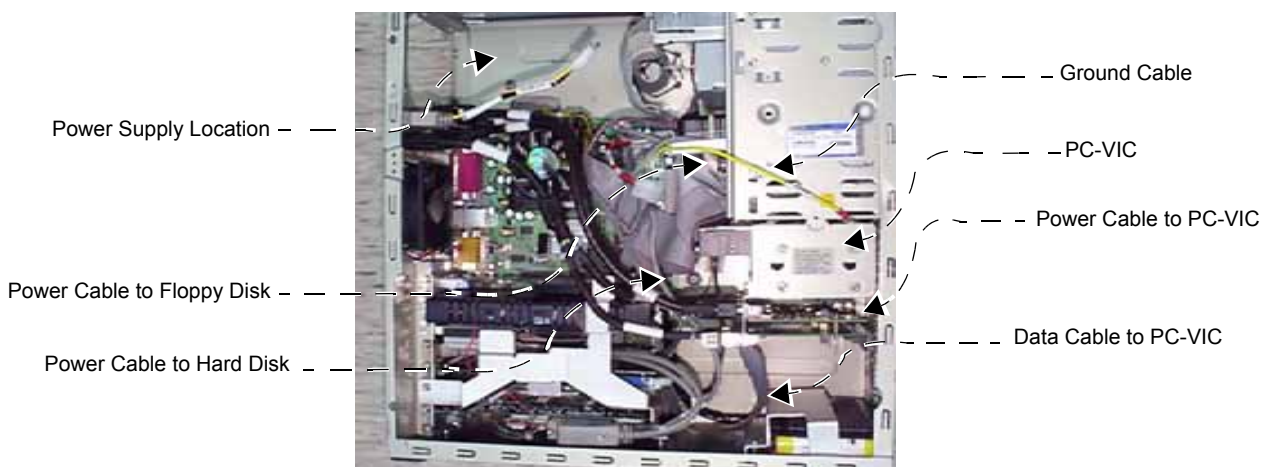

Figure 8-83 BEP2 Power Supply Location
- 3.) Slide the power supply into the BEP power supply location (see Figure 8-83 below) and push the metal stabilizing bracket (located on the side of the power supply) *downwards* to hold the power supply in position.
- 6.) Re-connect the power cable to the Floppy Disk (labelled [D] in Figure 8-82); refer also to Figure 8-83, above.
- 7.) Slide the PC-VIC & hard disk out sufficiently to be able to re-connect the power cable (labelled [E] in Figure 8-82) to the PC-VIC; refer also to Figure 8-83, above.
- 8.) Re-connect the data cable to the PC-VIC (see Figure 8-83, above).
- 9.) Re-connect the power cable to the Hard Disk (labelled [F] in Figure 8-82); refer also to Figure 8-83, above.